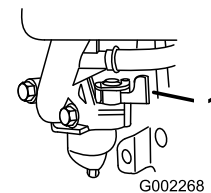

Figure 13
2. Open the fuel valve by moving the lever to the **right** (Figure 13)